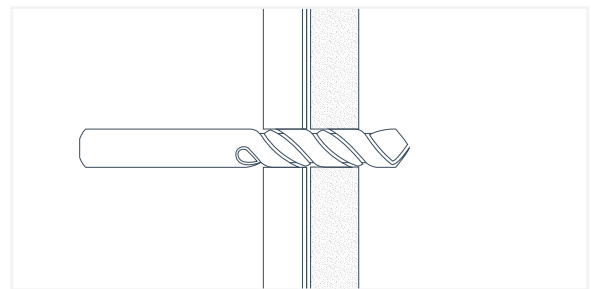

Fig. 42
1. Drill a hole through the Trusscore Wall&CeilingBoard and any backer material if applicable (Fig. 42). The hole size is dependent on the size of toggle bolt you are using. This should be indicated on the toggle bolt packaging.